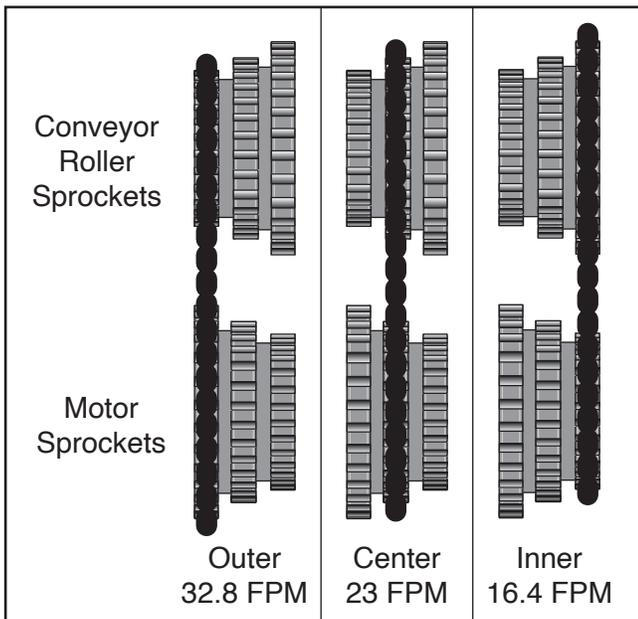
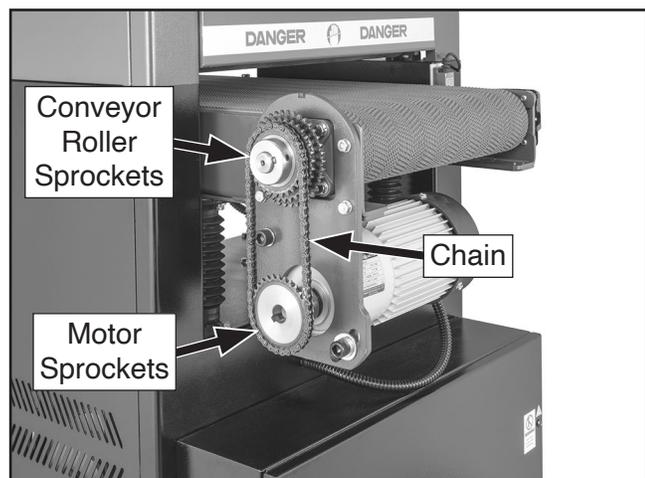

Figure 44. Chain positions for setting conveyor belt feed rate.
Figure 47. Location of chain and sprockets.
The conveyor belt has three feed rates, which are controlled by the chain position on the sprockets of the feed motor and conveyor roller (see **Figure 44**).
4. Move chain onto set of sprockets (see **Figure 47**) that correspond to desired feed rate (see **Figure 44** on **Page 36**).